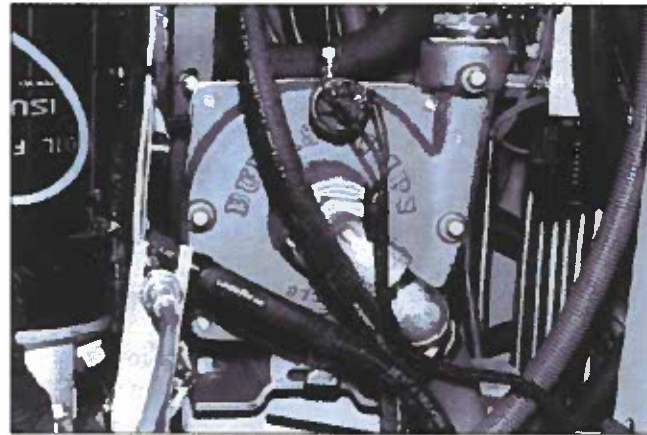

Figure SP-22
5. Open the drain on the lower section of the spray water pump (Figure SP-22).
6. Install the drain plug in the lower section of the spray water pump (Figure SP-22).